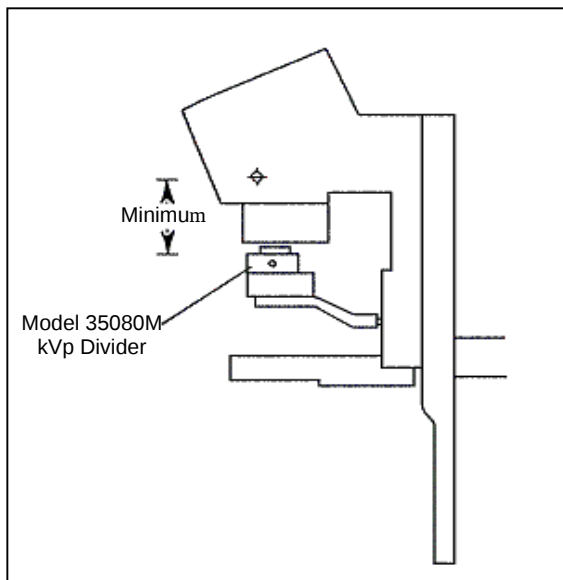

Figure 4-3. K-edge Measurement Setup
1. **Measurement Setup** - Place the Model 35080M kVp Divider in the X-ray beam on the compression paddle or other suitable support with the axis of the kVp Divider perpendicular to the axis of the X-ray tube. Raise the kVp Divider (with the Cadmium K-edge Mammo Filter Pack, 37355) as close as possible to the X-ray tube. The X-ray beam should cover the entire filter pack. (See Figure 4-3.)